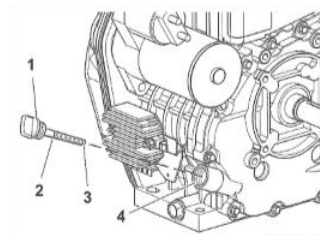

Figure: 8
- Yanmar engine: Unscrew the dipstick/oil fill cap from the engine and wipe it off. Insert the dipstick into the hole until the thread of the dipstick touches the thread of the block (do not screw it in!). Now remove it again and take the reading. The oil level must be between (2) and (3) on the dipstick (1). If the oil level is too low, top it off through the dipstick opening (4). (See *figure 8*).